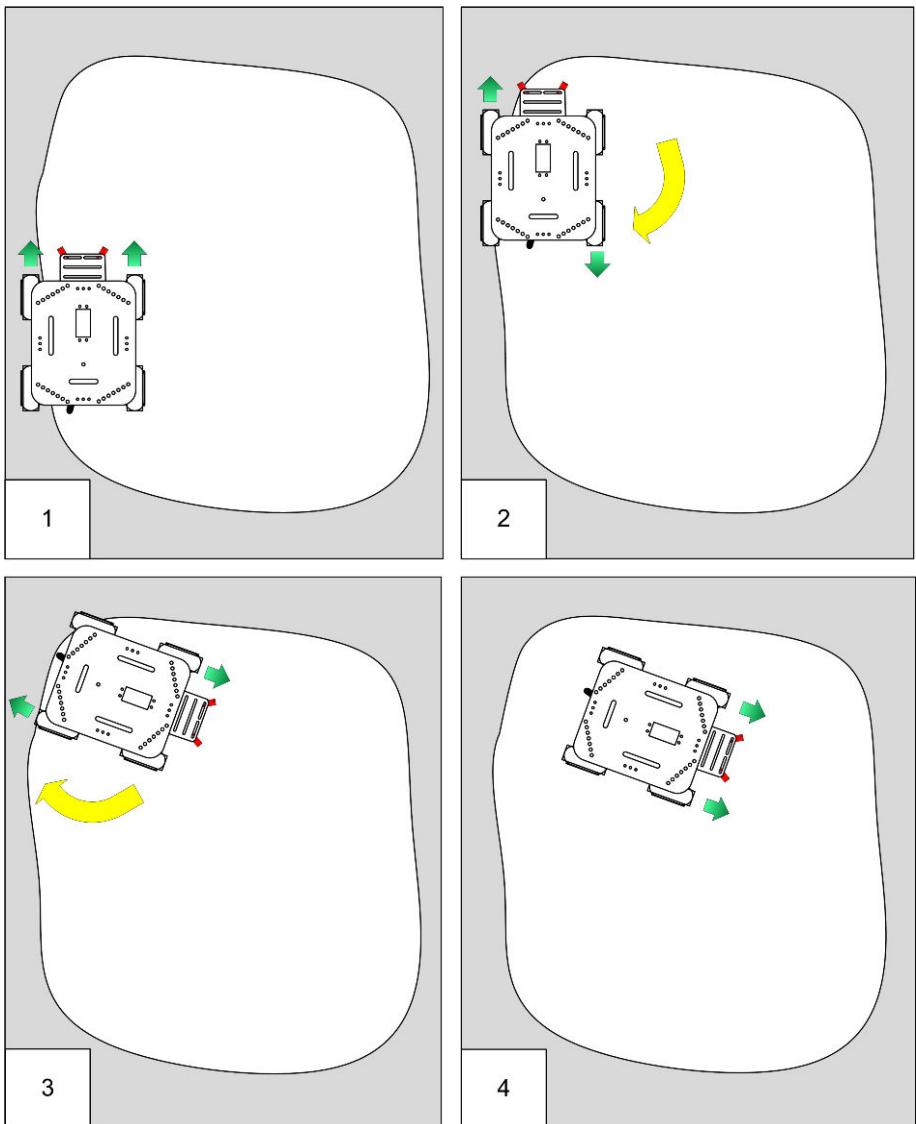

Figure 9-2. Robot stays within the reflective area
- A reflective surface with non-reflective edges for the edge detection sketch (see Figure 9-2. You can use a large sheet of plain white paper with the edges marked using a black marker pen or black electrical tape. The border should be around 3/4 of an inch thick or so. The optimal surface would be white, but with sufficient friction that your robot won't slip. Lining paper, often sold as unpasted wall liner, is a great surface. It's designed to provide an even surface for wallpapering or painting, but with enough texture that makes it great for racing robots.
Figure 9-2 shows how the robot responds to moving over an edge. In panel 1, the sensors do not detect an edge so the robot moves forward. In panel 2, the left sensor moves off the reflective surface so the robot stops and rotates 120 degrees. In panel 3, the robot completes its rotation; panel 4, shows the robot moving forward again.